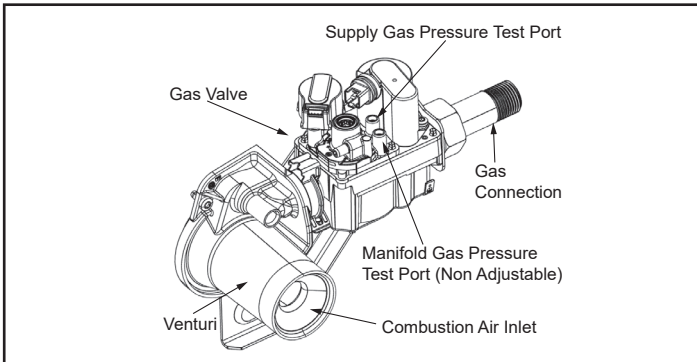

Figure 74. 60 Gallon_PX52 - Gas Valve Assembly
- On the water heaters covered by this manual there are test ports for supply and manifold gas pressure readings on the gas valve. Using a small flat tip pocket screw driver - open the needle valve inside the supply gas pressure test port one full turn only (do not fully remove the needle valve), then turn the needle valve screw counter-clockwise to open the valve. Slide the manometer sensing tube over the top of the test port. See *Figure 74*.